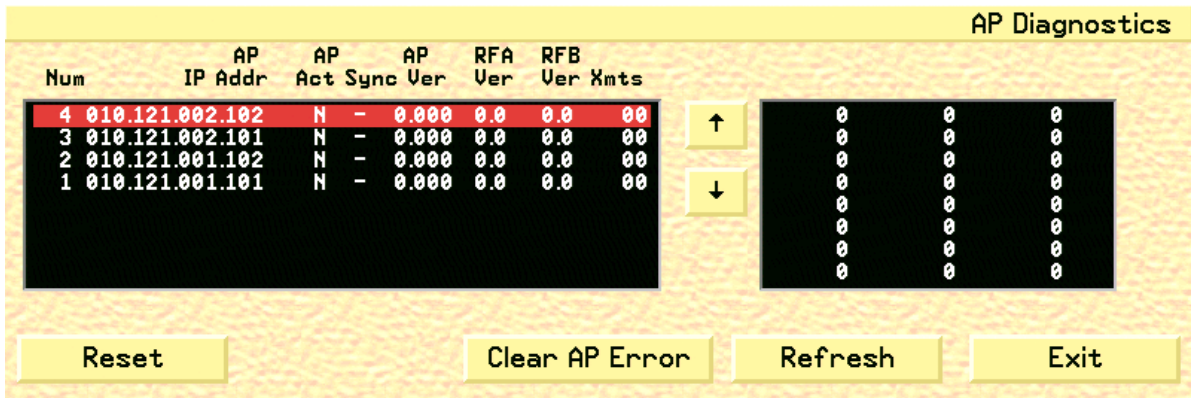

Fig. 73. AP Diagnostics Screen
- Clicking the **AP Diag** button will open the Access Point Diagnostic screen for each Central Station (fig. 73).